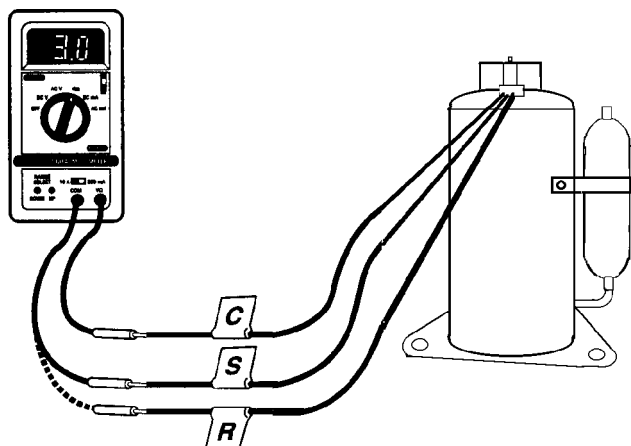

FIGURE 30 — SHORTED/OPEN WINDINGS TEST
4. Perform a shorted/open windings test to measure the resistance between the windings of the compressor motor. Use a volt-ohmmeter set to the lowest ohm reading level then read and record the resistance between the RUN and START, START and COMMON, and RUN and COMMON wires. See Figure 30. The typical resistance readings will be about 4, 3, and 1 ohms respectively. The smaller values should add to equal the larger value. If this is not true then the compressor is likely shorted winding to winding.